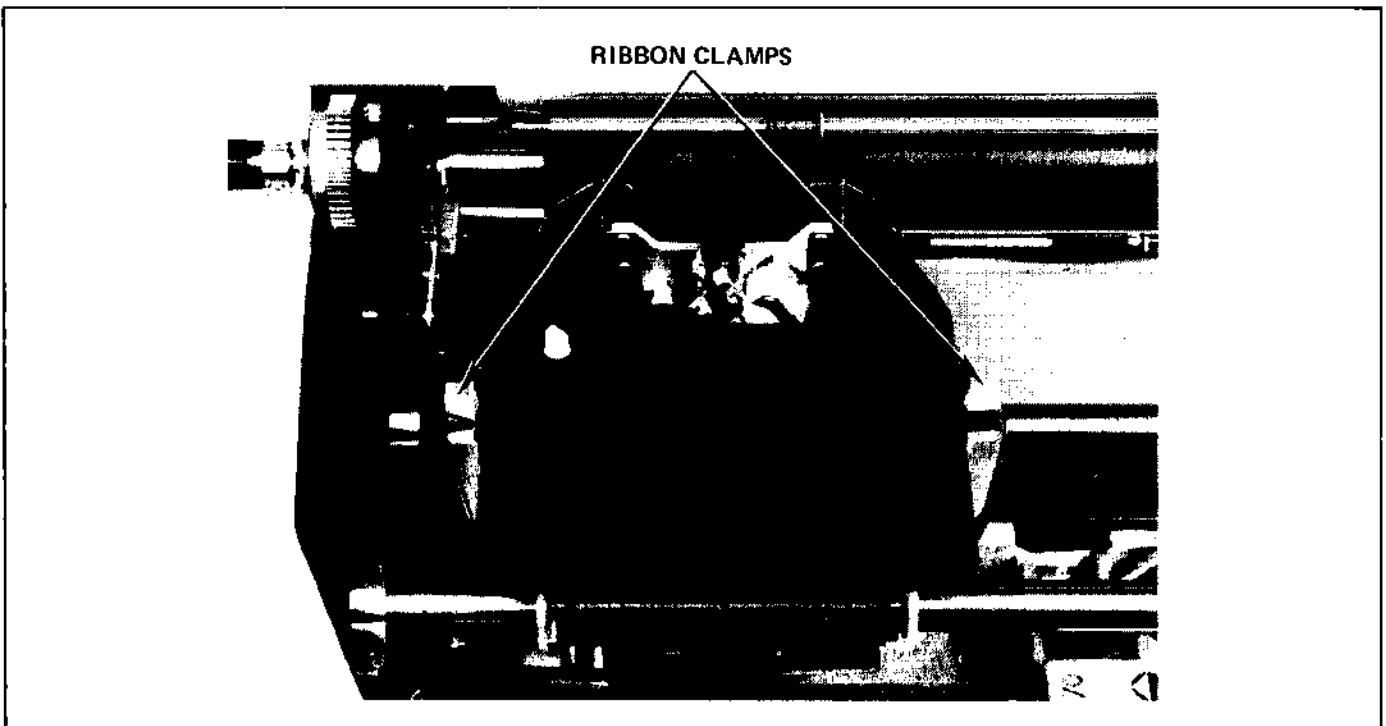

Figure 2-7. Ribbon Clamps
- (1) Raise or remove the printer access cover [see 2.2.4(6)].
- (2) Depress both ribbon clamps (Figure 2-7), and lift the old ribbon straight up.